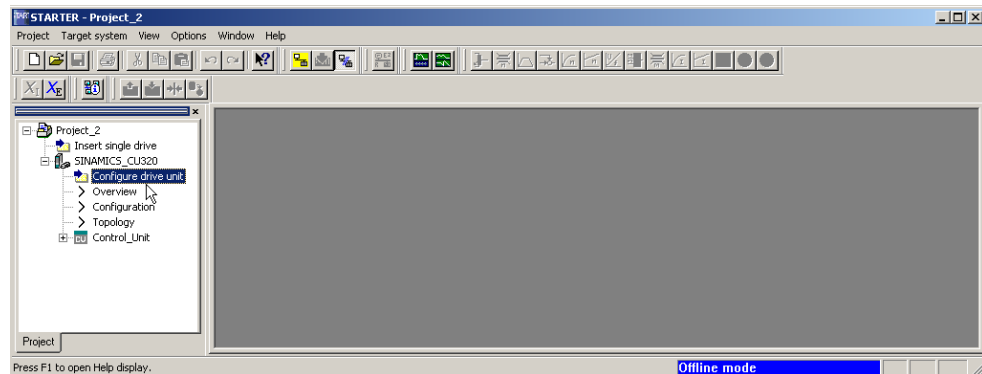

Fig. 3-12 STARTER project navigator “Project_2”
As you can see in Fig. 3-12, the project Wizard has created **Project_2**, drive unit **SINAMICS_CU320**, and a **Control_unit** in the project navigator.
1. In the project navigator, open the **SINAMICS_CU320** directory and double-click the element **Configure drive unit** (see Fig. 3-12).